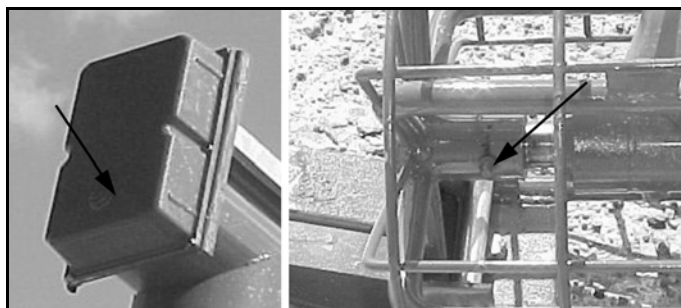

Figure 6.3 Upper Chain Drive Zerk & Intake Zerk
2. Grease points on the machine are shown in Figure 6.3.